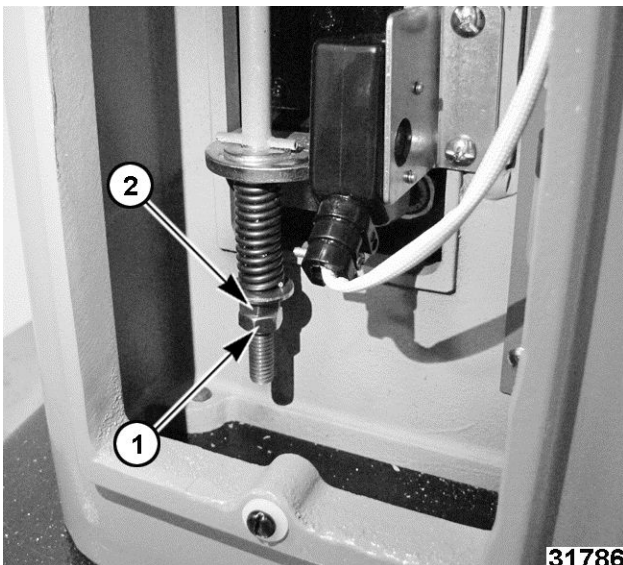

Fig. 70
2. Loosen jam nut (1, Fig. 70).
- A. If bowl lock is too loose, turn bowl lock nut (2, Fig. 70) CCW (as seen from above) until proper locking action is achieved.